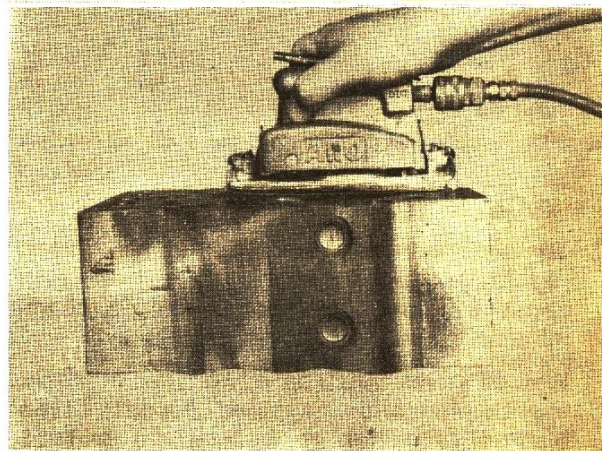

Fig. 2-16, Sand the cylinder head
4. Sand the surface of the cylinder head with a sander. Fig. 2-16. Do not use a disc sander.